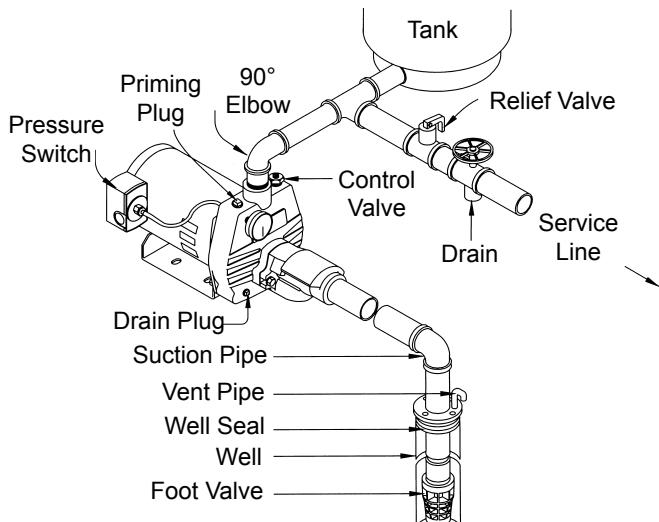

Fig. 3a SHALLOW WELL (WITH FOOT VALVE)
- d) **Service Line:** The service line should be connected as shown in Fig. 3a, b, c, or d. The size of the service line required is governed entirely by the amount of water needed and the length of the pipe. The pipe selected should be large enough so that the friction loss (determined from Table 3, Friction Loss Chart) will never exceed 20 ft. (6m) head.